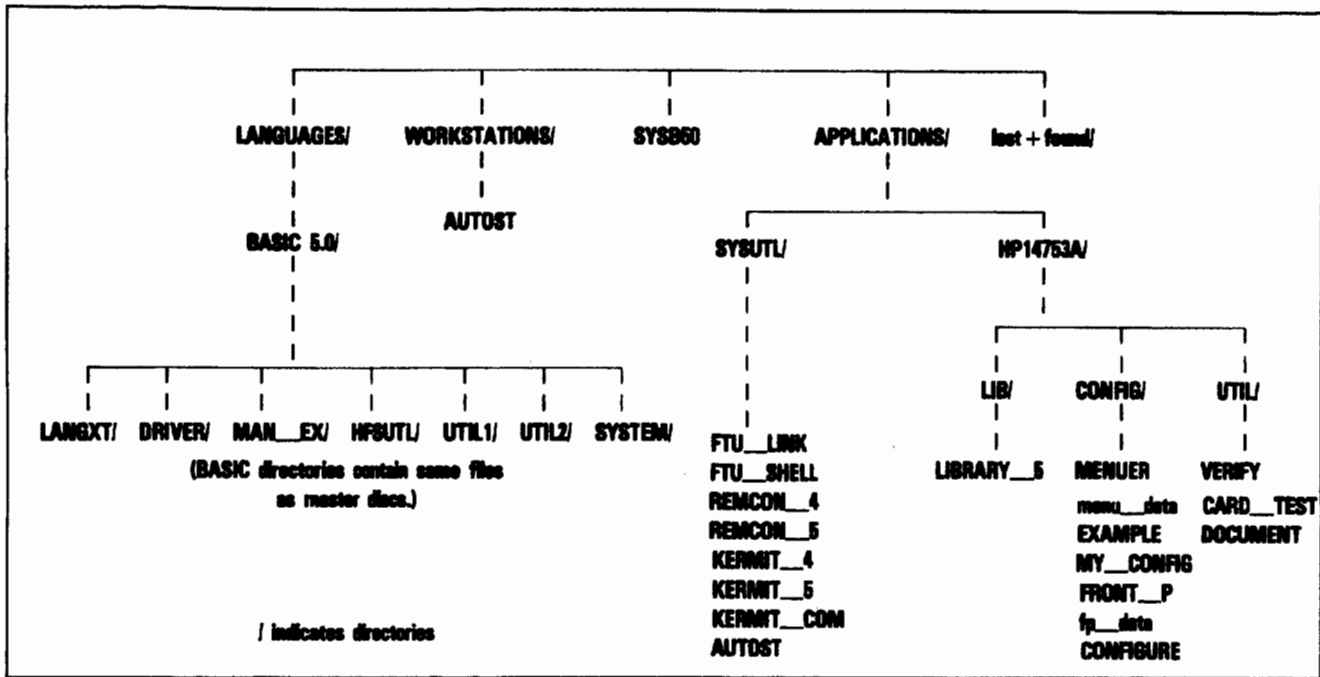

Figure 2-12. Organization of a Typical HP 6954A Hard Disc.
Figure 2-12 shows how the software is set up on a typical HP 6954A hard disc. Note that the BASIC 5.0 directories are organized with the same files as the corresponding micro-floppy discs supplied with the system. Therefore, your hard disc organization could differ slightly from Figure 2-12, depending on revisions subsequently made to the master discs.
Referring to Figure 2-12, note that the "EXAMPLE" program that you will be running is in the HP 14753A/ subdirectory of the APPLICATIONS directory on the hard disc. In order to access the program, you will have to type:
Mainframe and card verification tests for the HP 6954A are located in the **UTIL/** subdirectory of the HP 14753A/ subdirectory on the hard disc (see Figure 2-12). For further information, refer to the *HP 6954A/44A Assembly Level Service Manual*.
The following procedure sets up the hard disc exactly as shown in Figure 2-12. If you do not wish to follow this organization, you may modify the following steps according to your own disc layout.
- Figure 2-12 shows the intended organization for the hard disc. Note that each of the lowest-level subdirectories (**LANGXT/**, **SYSTEM/**, **SYSTUTL/**, **CONFIG/**, etc.) is dedicated to the files from a specific microfloppy master. There are 11 subdirectories to accommodate 11 master diskettes.
- Operating from the microfloppy BASIC 5.0, use the **CREATE DIR** command to create all the directories and subdirectories shown in Figure 2-12. You can create a directory first, then **MSI** to that directory and create the next subdirectory, etc. Or, you can create everything from the root directory by specifying a complete path, such as: